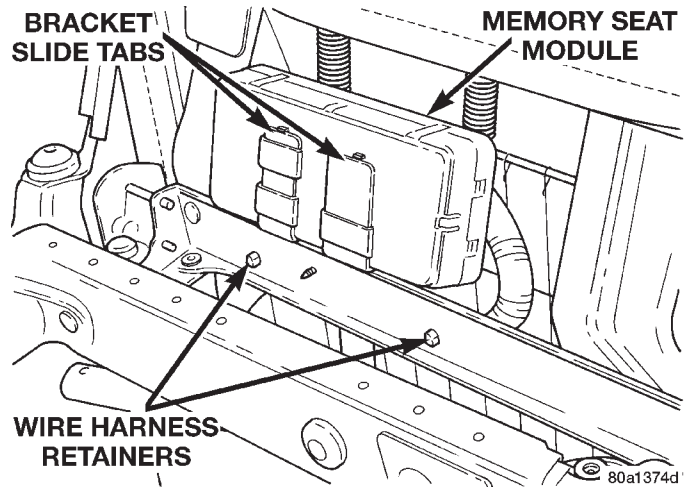

Fig. 8 Memory Seat Module Remove/Install
(1) Move the driver side power seat adjuster to the most raised and forward stop positions, if possible.
(2) Remove the single screw that secures each of the two rear seat track covers to the rear of the seat tracks and remove the covers.
(3) Remove the single screw that secures the rear of each of the two seat tracks to the floor pan.
(4) Move the driver side power seat adjuster to the most rearward stop position, if possible.
(5) Remove the single screw that secures the front of each of the two seat tracks to the floor pan.
(6) Disconnect and isolate the battery negative cable.
(7) Carefully tilt the seat back towards the outboard side of the vehicle.
(8) Release the two retainers that secure the memory seat module wire harness to the inboard seat adjuster top rail (Fig. 8).